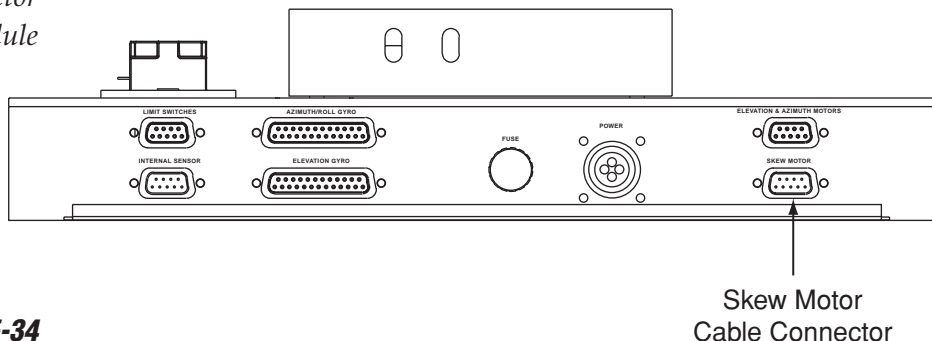

Figure 5-34
4. Remove the four #8-32 screws securing the LNB/feed tube assembly to the reflector base (see Figure 5-34). Withdraw the LNB/feed tube assembly through the center hole in the reflector.